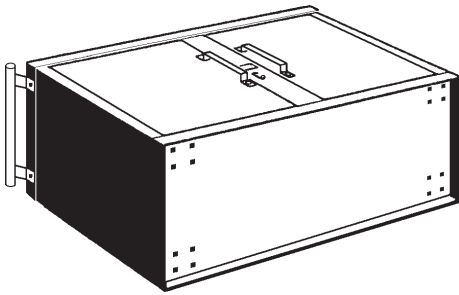
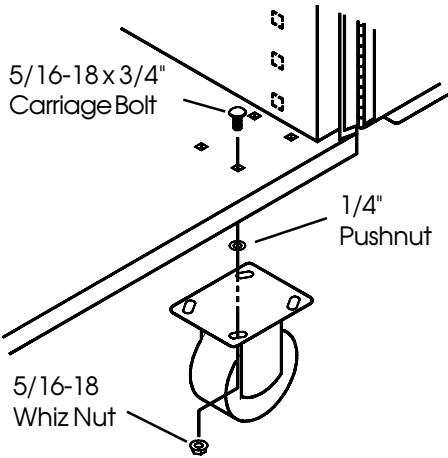

Figure 2. Caster Mounting Holes with Whiz Nuts. Repeat this for the remaining Casters.
Figure 3. Caster Mounting while pressing down on the right lever (B). Pull drawer clear on the slides.
2. Close the doors and lay the cabinet on its back onto the flattened shipping carton to prevent paint scratches (Figure 2.). Mount the Swivel Casters on end you mounted the Push Handle. Insert a Carriage Bolt into a mounting hole, and push a Pushnut onto the bolt to hold it in place (Figure 3). Repeat this for the other three mounting bolts. Place the Caster over the bolts, then fasten